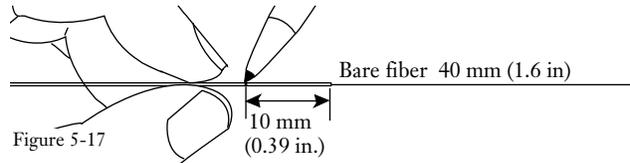

Figure 5-17
5.4-4 Mark the buffer 10 mm (0.39 in) back from the strip point with a permanent ink marker (Figure 5-17).